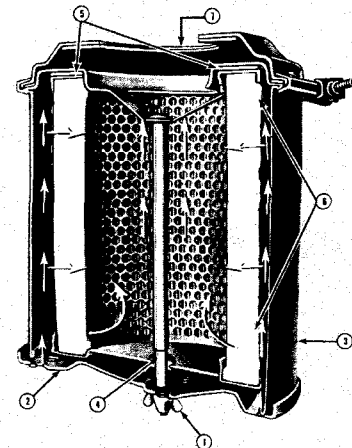

Fig. 2-16, (N11003). Air cleaner dry type
1. Loosen wing nut (1, Fig. 2-16) securing bottom cover (2) to cleaner housing (3). Remove cover.
2. Pull element (6) down from center bolt (4).
3. Remove gasket (5) from outlet end (7) of housing.